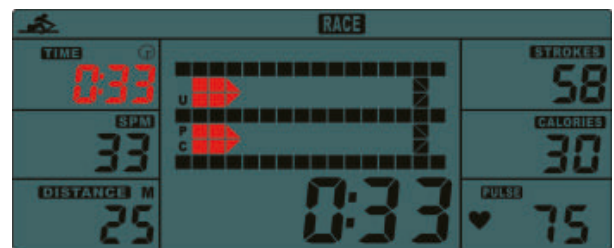

fig. 6
- Press START to start the training. STOP is no longer displayed. USER & PC is shown on the display (fig. 6). The display stops once you have reached the distance of the race previously set. Then „PC WIN“ or „USER WIN“ (fig. 7) is displayed and the energy level is also displayed after six seconds.